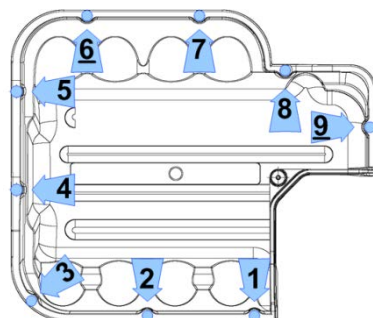

Figure 10 – Top Cover Torque Sequence
15. Place the top cover and secure it with the nine (9) M5x15 screws according to the following sequence. Follow the sequence twice. The first time, only fasten screws half way down to allow for adjustments. Torque to 13 in.lb. on the second pass. Refer to Figure 10 (Top Cover Torque Sequence).